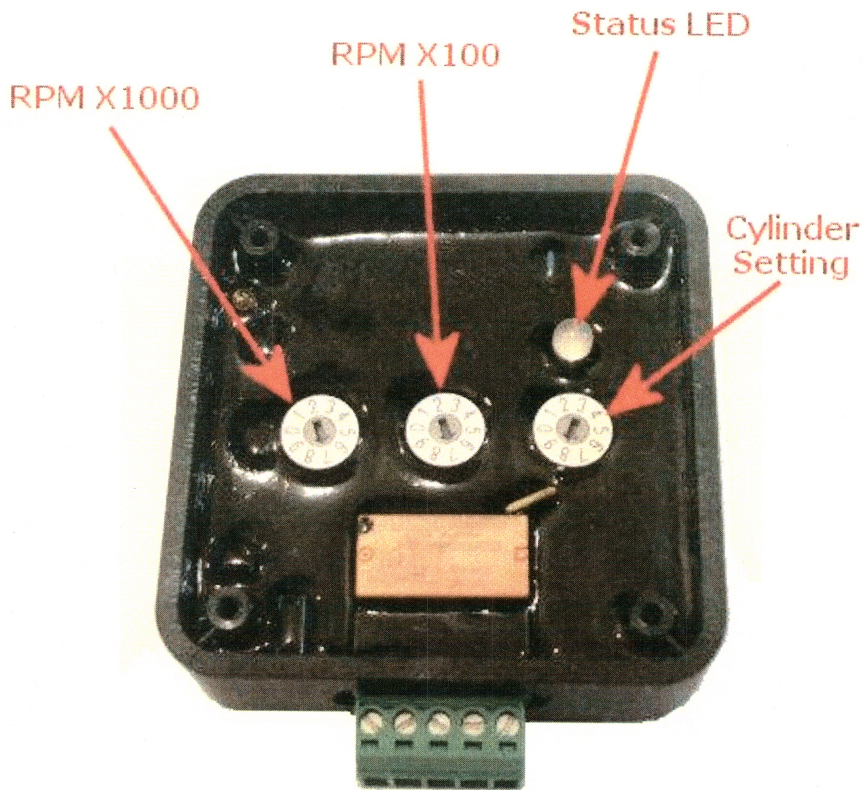

FIGURE 2
- REMOVE THE FOUR (4) SCREWS FROM THE FACEPLATE AND REMOVE FACEPLATE TO MAKE RPM OR CYLINDER SELECT ADJUSTMENTS.
- SET THE DESIRED RPM ACTIVATION POINT USING TWO OF THE THREE ROTARY SWITCHES, WITH A SMALL SCREWDRIVER (SEE FIGURE 2).
- SET THE "CYLINDER SELECT" SWITCH ACCORDING TO THE ENGINE'S RPM PULSE/REV CONFIGURATION (SEE FIGURE 2).